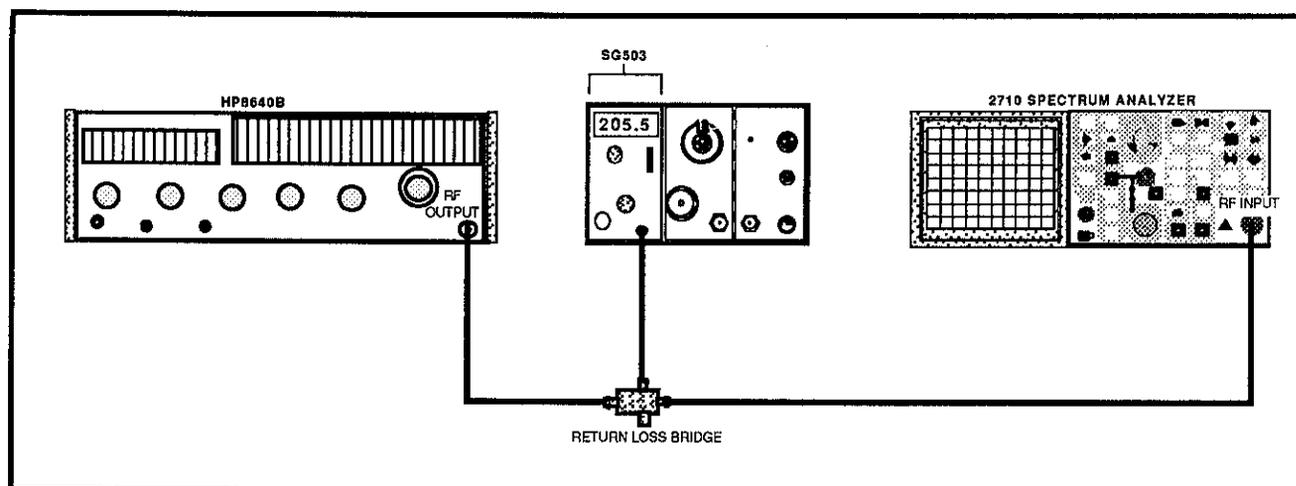

Figure 3-3. 1dB Compression Point Test
a. Connect the test equipment as shown in Figure 3-3.